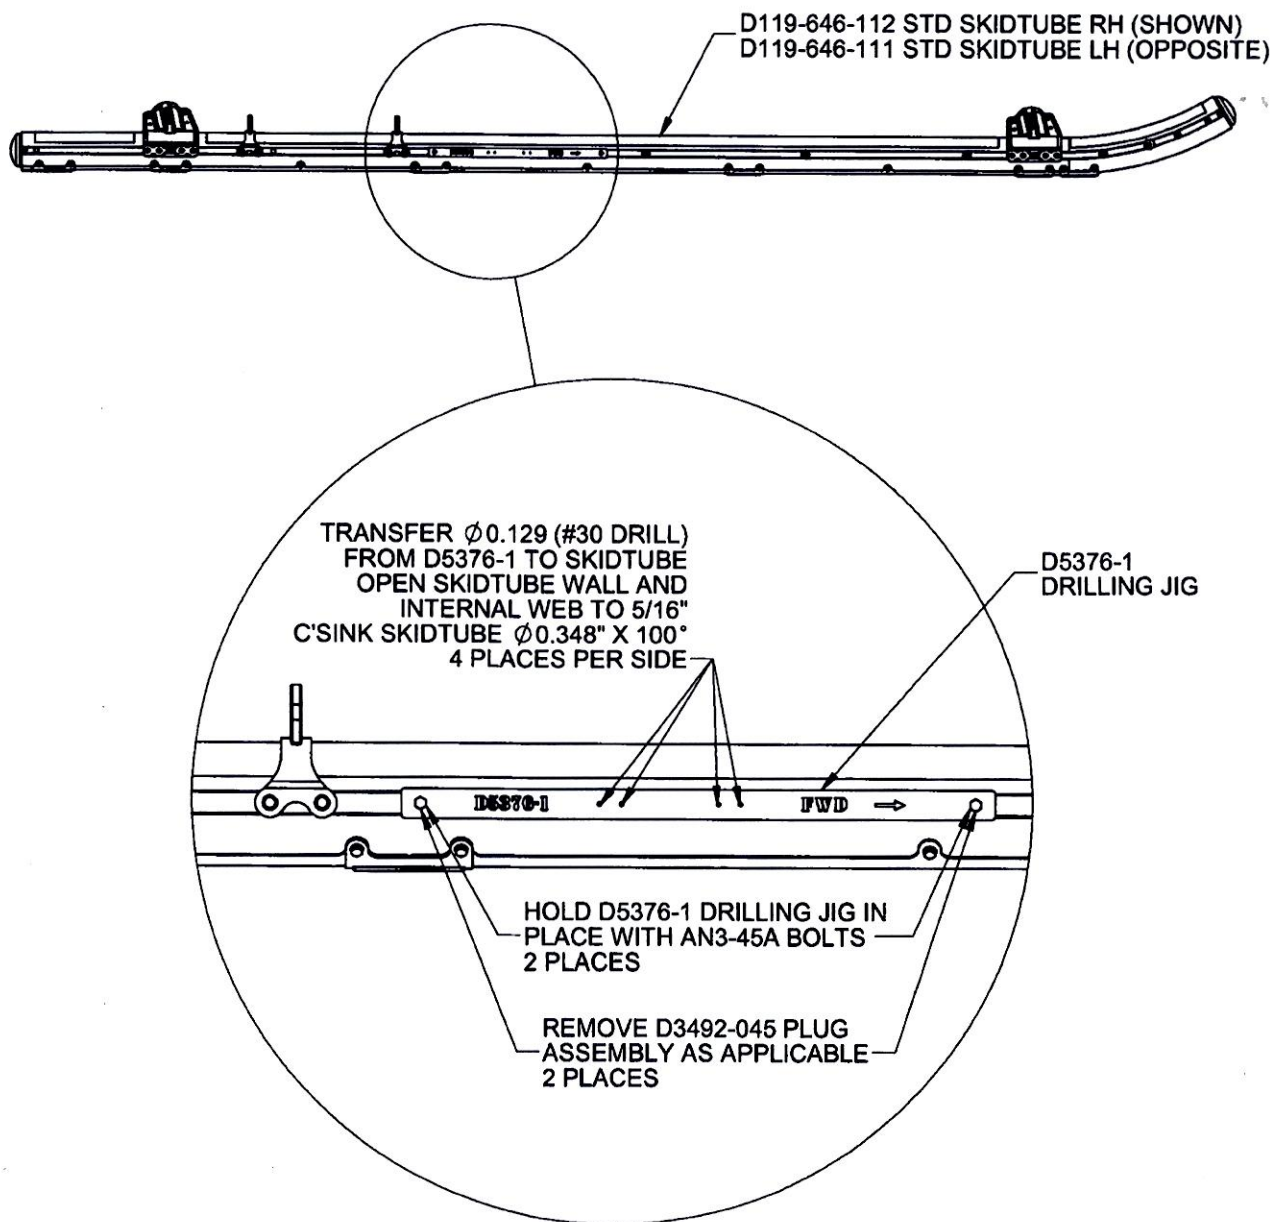

FIGURE 3: USING D5376-1 DRILLING JIG
- 2.1 Remove D3492-045 Plug Assemblies from two locations on each side of the skidtube as shown in Figure 3.
- 2.2 Position D5376-1 drilling jig tool with the arrow pointing fwd as shown in Figure 3. Use 2x AN3-45A bolts to hold the jig in place. Transfer drill 4x $\varnothing 0.129$ " (#30 drill) holes from D5376-1 drilling jig to skidtube ridge as shown in Figure 3. **Caution:** Drill perpendicular to the skidtube ridge.
- 2.4 Countersunk 4x 5/16" holes to $\varnothing 0.348$ " (8.84mm) x 100° as shown in Figure 3 and deburr.